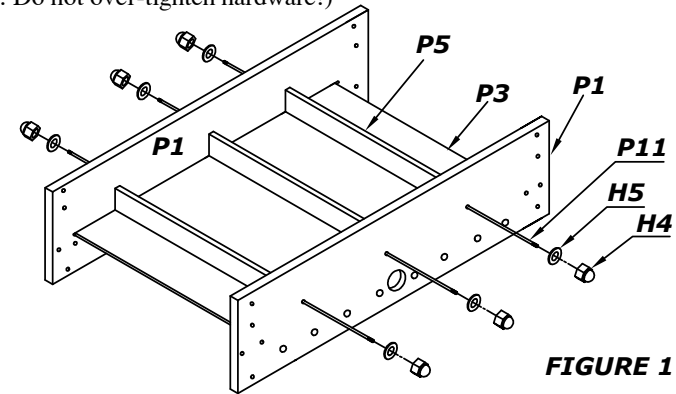

FIGURE 1
1. INSERT PLAY FIELD **P3** INTO THE GROOVE ON THE SIDE PANELS **P1** WITH GRAPHICS FACING DOWN. SEE **figure 1**
2. PLACE THE PLAYFIELD SUPPORT BRACES **P5** ON THE BOTTOM OF THE PLAYFIELD. INSERT LONG BOLT **P11** INTO THE HOLE OF THE SIDE PANEL **P1** AND ATTACH IT WITH WASHER **H5**, NUT **H4** AS SHOWN IN **figure 1**. (CAUTION: Do not over-tighten hardware!)